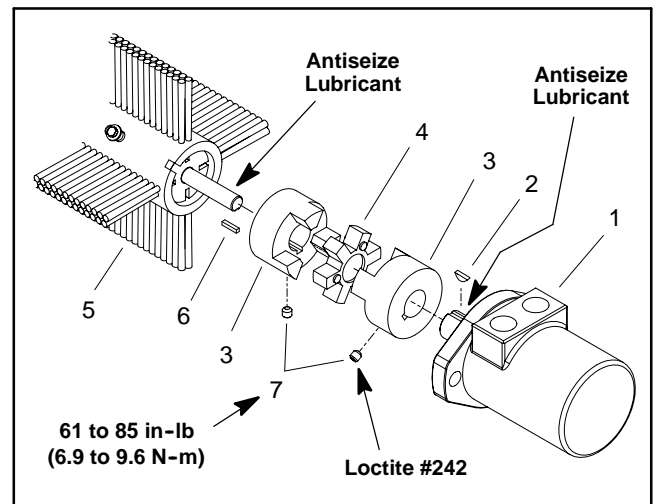

Figure 9
3. Secure front pivot mount with hardened spacer (item 11), flat washer (item 10) and cap screw (item 9).
6. Secure pivot mounts to frame with cap screws (item 2) and lock nuts (item 3). Torque lock nuts from **94 to 116 ft-lb (128 to 157 N-m)**.
7. Install hydraulic brush motor to brush housing (see Hydraulic Brush Motor Installation in the Service and Repairs section of Chapter 3 - Hydraulic System). Make sure that coupling jaws have a gap between coupler jaw valleys from 0.830" to 0.930" (21.1 to 23.6 mm). Apply Loctite #242 (or equivalent) to threads of coupling set screws. Secure coupling jaws to motor shaft and brush shaft by torquing set screws from **61 to 85 in-lb (6.9 to 9.6 N-m)** (Fig. 9).